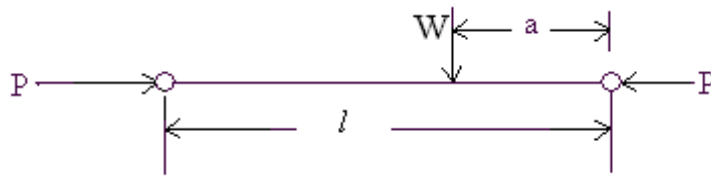

Figure 5
5. A beam column as shown in figure 5 has both ends hinged and carries a load W at a distance 'a' from the right hand support. Determine the expression of deflection for this beam-column. [16]